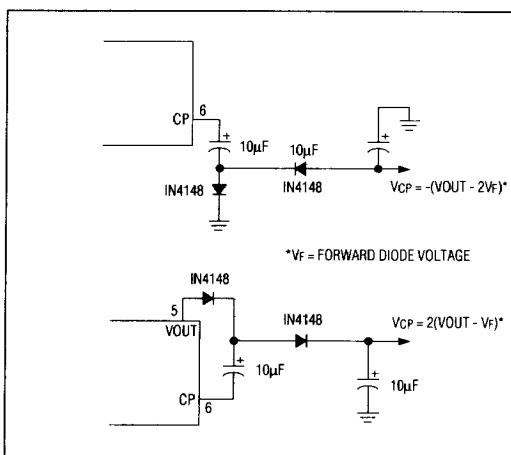

Figure 3. Using the Charge Pump (CP) output as a voltage inverter and/or doubler. Both circuits can be used together.
The Charge Pump (CP) output is a low impedance buffer which swings from ground to VOUT at the oscillator frequency. Two external capacitors and diodes can be connected, as shown in Figure 3, to generate a negative output voltage of $-(V_{OUT} - 1.2V)$ or a positive output of $2(V_{OUT} - 1.2V)$. 1.2V is the forward drop of 2 silicon diodes. Both circuits can be used at once if desired. With 10μF capacitors, the output impedance of V_{CP} is about 30Ω. If space is critical, the capacitors can be reduced, but with a slight increase in output impedance and V_{CP} output ripple.